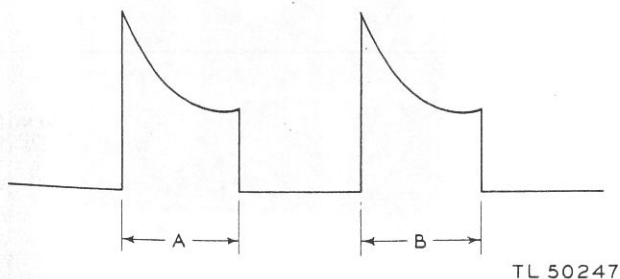

Figure 47—Oscilloscope signal pattern for cam-switch adjustment
(2) **OSCILLOSCOPE ADJUSTMENT.** If an oscilloscope is available, connect one of the vertical-plate leads to the center cam contact, and ground the other lead to the recorder-scanner chassis (this is, in effect, across rheostat R218). Switch on the tape-facsimile equipment so that the drive motor is running, and observe the oscilloscope pattern. The curve should appear as in figure 47, with distance A equal to distance B. If necessary, adjust the screw (346) (fig. 27), with the motor operating, until the two distances become equal.